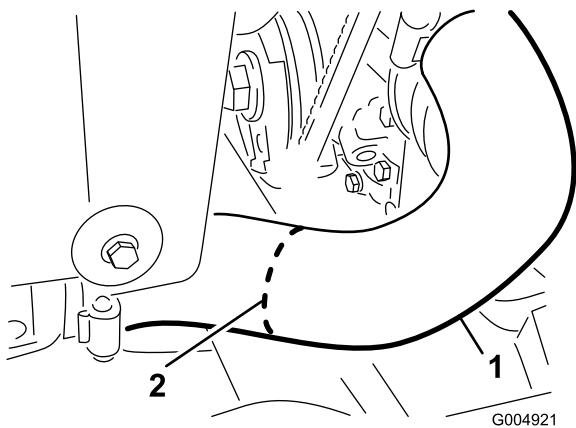

Figure 17
13. Cut the lower radiator hose through the center of the straight section as shown in Figure 17.